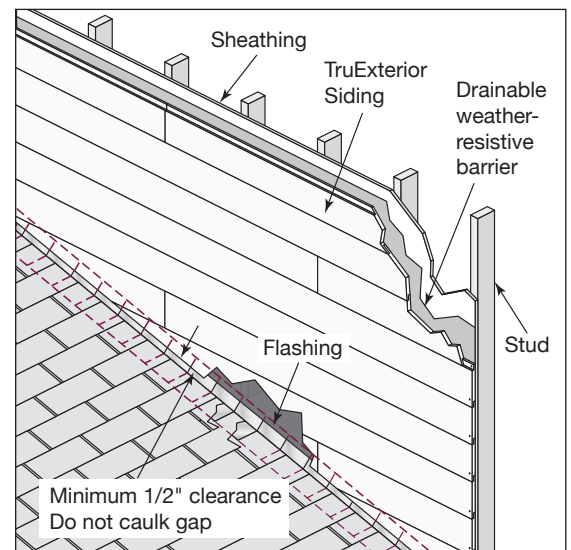

Fig. 3
- Allow a minimum 1/2" clearance between the siding and the roof line, do not caulk the gap (**Fig. 3**)